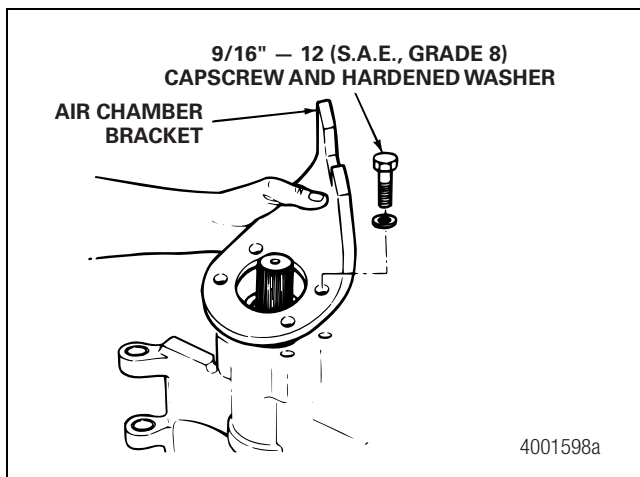

Figure 7.12
9. Install the air chamber bracket over the cap. Figure 7.12.